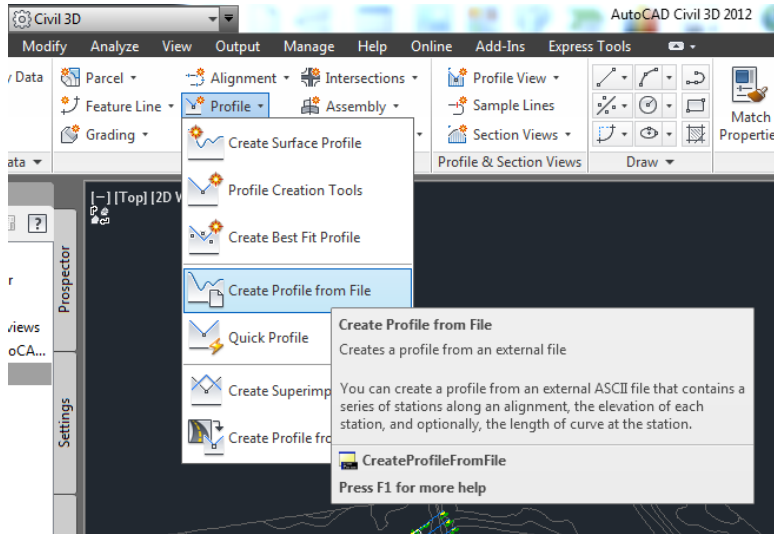

Figure 24: Create Profile from File
2. In the Civil 3D Home ribbon, select *Profile* → *Create Profile from File* (see Figure 24).